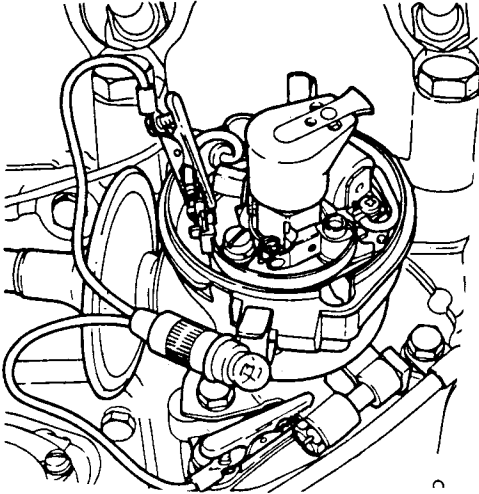

Fig D3.2
- (2) Refer to Fig D3.2. Connect a test lamp to the points indicated.